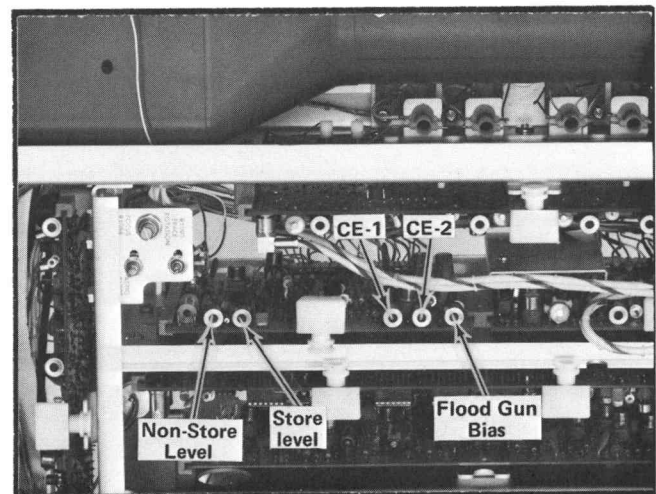
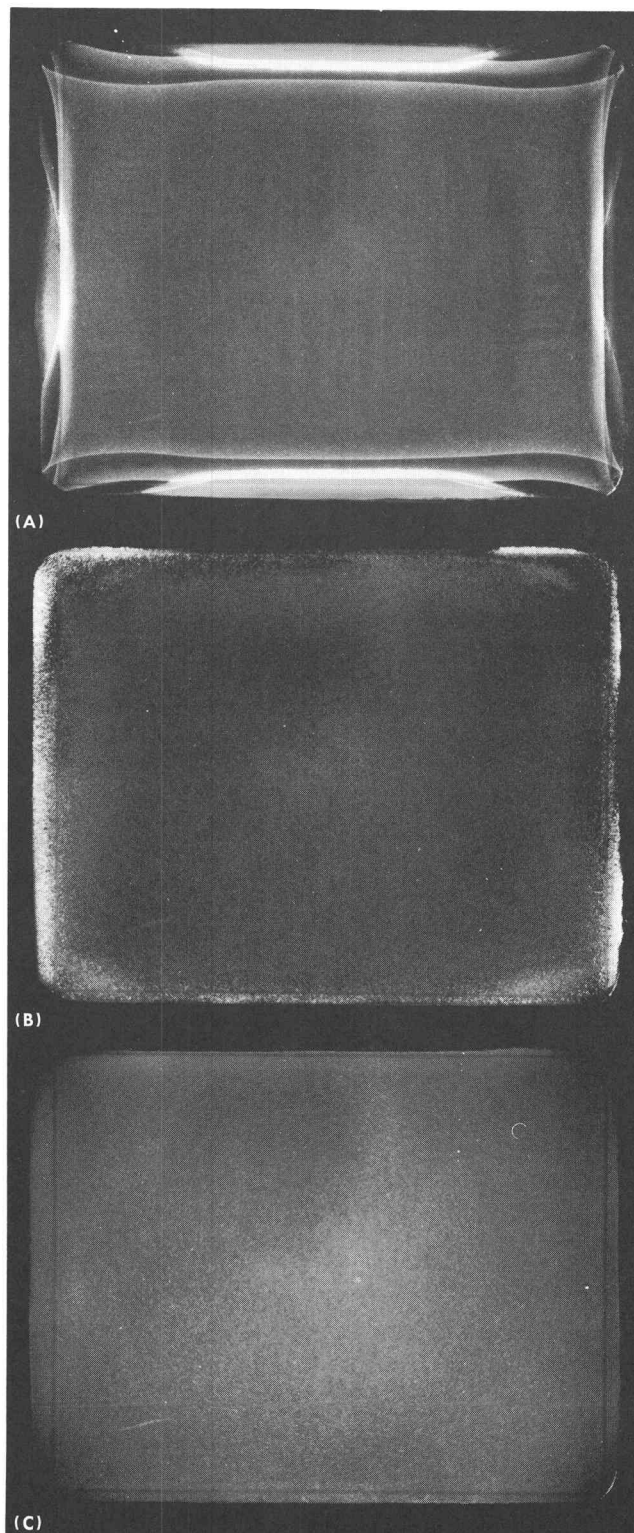

Fig. 5-9. Location of Storage adjustments.
Fig. 5-10. A. and B. Collimation misadjusted. C. Collimation adjusted for optimum brightness.
If CRT performance has been satisfactory no adjustment of steps 8, 9 and 10 is necessary. Proceed to step 11. Storage tube voltages recommended for the CRT in this instrument are written on a tag fastened to the CRT shield. These voltages can be set using the adjustments shown in Fig. 5-9. The optimum value of the Store and Non-Store voltages tends to increase during the life of the CRT. The voltages given on the tag provide a good starting point at which to initially set the Storage adjustments.
d. Rotate the store STB Level, R644, (see Fig. 5-9) fully counterclockwise and note the voltmeter reading.
d. With the screen fully written, rotate the flood gun bias control R692 (see Fig. 5-9) fully counterclockwise. Note the shadows around the edges of the screen.
f. With the storage CRT fully written rotate CE-1, R687, (see Fig. 5-9) counterclockwise until the background
g. While erasing rotate CE-2, R682, (see Fig. 5-9) clockwise until the edge of the CRT fades positive. Now rotate the CE-2 adjustment counterclockwise until the edge lighting just disappears. Fig. 5-10 illustrates the effect of correct and incorrect adjustment of collimation voltages.
b. Using the vertical position control, continuously move the trace up and down on the CRT. Simultaneously rotate the non-store level adjustment, R645, (see Fig. 5-9) clockwise until the CRT begins to store portions of the trace. Then rotate the non-store level adjust counter-clockwise just past the storage point for no storage.